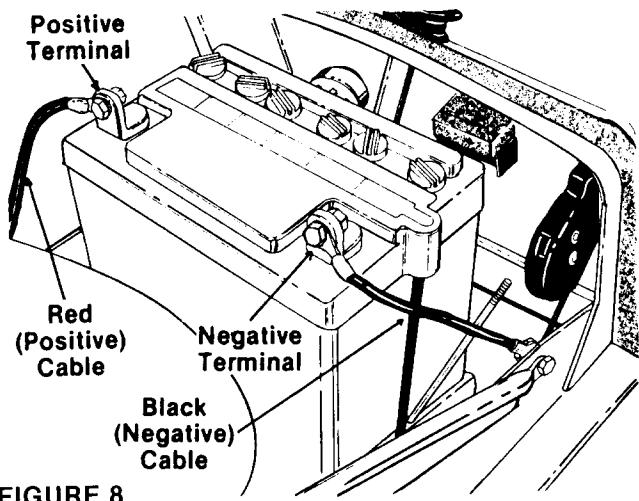

FIGURE 8
2. Place the battery in the lawn tractor so that the positive terminal is facing the right side of the unit. See figure 8.
3. Place the positive (heavy red) cable on the positive terminal. Secure with carriage bolt (N), lockwasher (P) and hex nut (O).
4. Place the negative (heavy black) cable on the negative terminal. Secure with carriage bolt (N), lockwasher (P) and hex nut (O).
5. Hook one hold down rod (G) into the edge of the battery bracket beside the battery. See figure 8. Place the battery cover (F) in position over the hold down rod. Secure with wing nut (H). Attach other hold down rod to the other side of battery cover in the same manner. See figure 9.